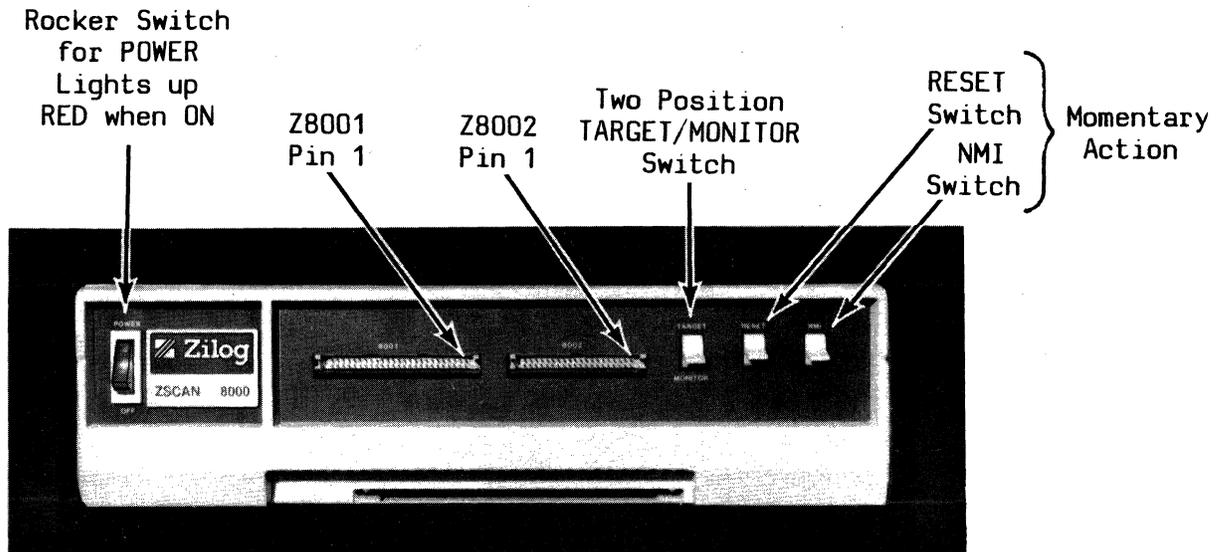

Figure 3-3. Z-SCAN Front Panel
1. Turn the red power switch on the Z-SCAN front panel to the OFF position. Figure 3-3 illustrates the switches and connections on the Z-SCAN front panel.